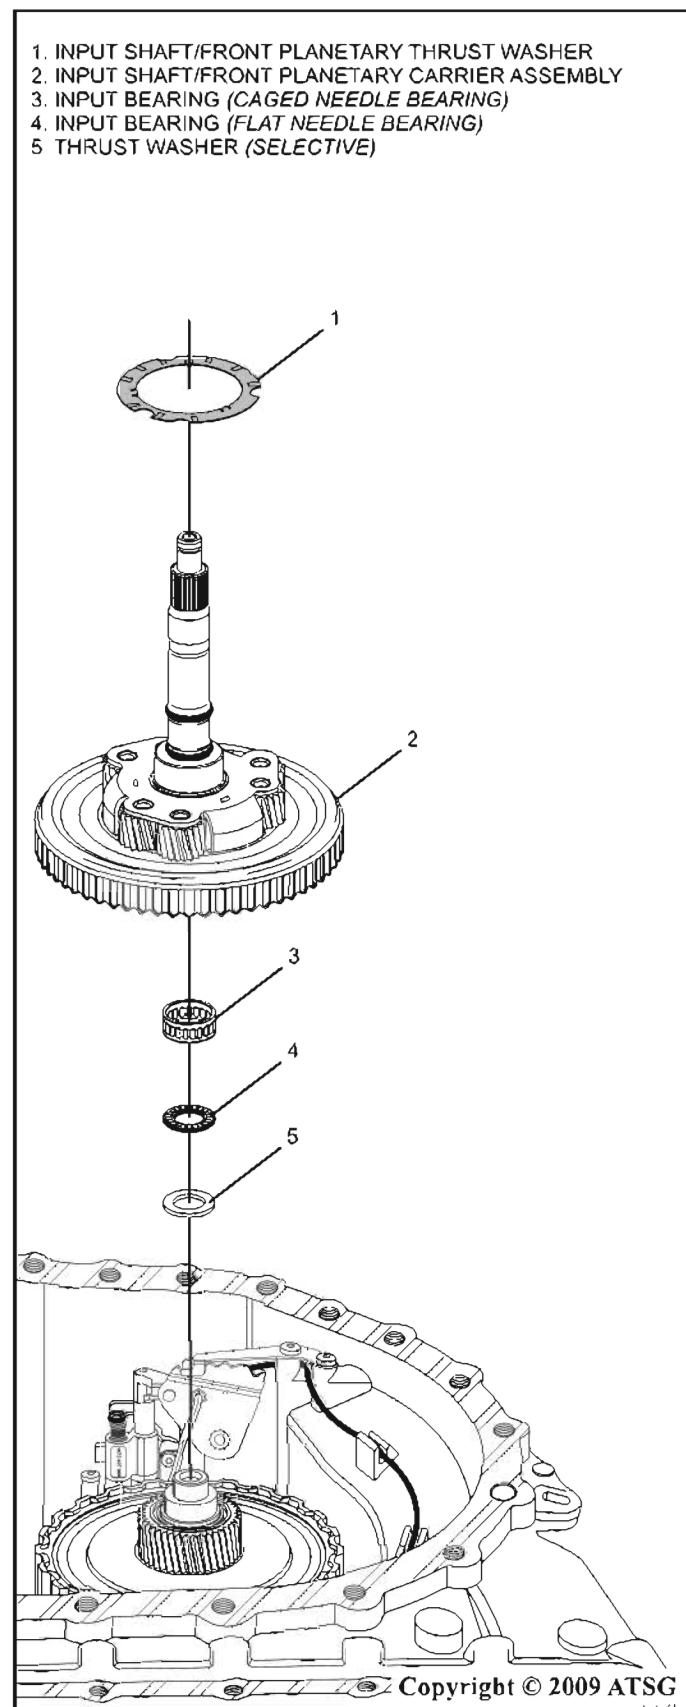

Figure 21
*Note: install bearings and thrust washers using the diagram in figure 21.*
47. Coat the thrust washer (selective) with a small amount of Trans-Jel® and install onto the variator shaft as shown in figure 21.
48. Coat the input bearing (flat needle bearing) with a small amount of Trans-Jel® and install onto the variator shaft as shown in figure 21.
49. Coat the input bearing (caged needle bearing) with a small amount of Trans-Jel® and install onto the variator shaft as shown in figure 21.
50. Install the input shaft/front planetary with a twisting motion as shown in figure 21.
51. Coat the input shaft/front planetary thrust washer with a small amount of Trans-Jel® and install onto the input shaft as shown in figure 21.